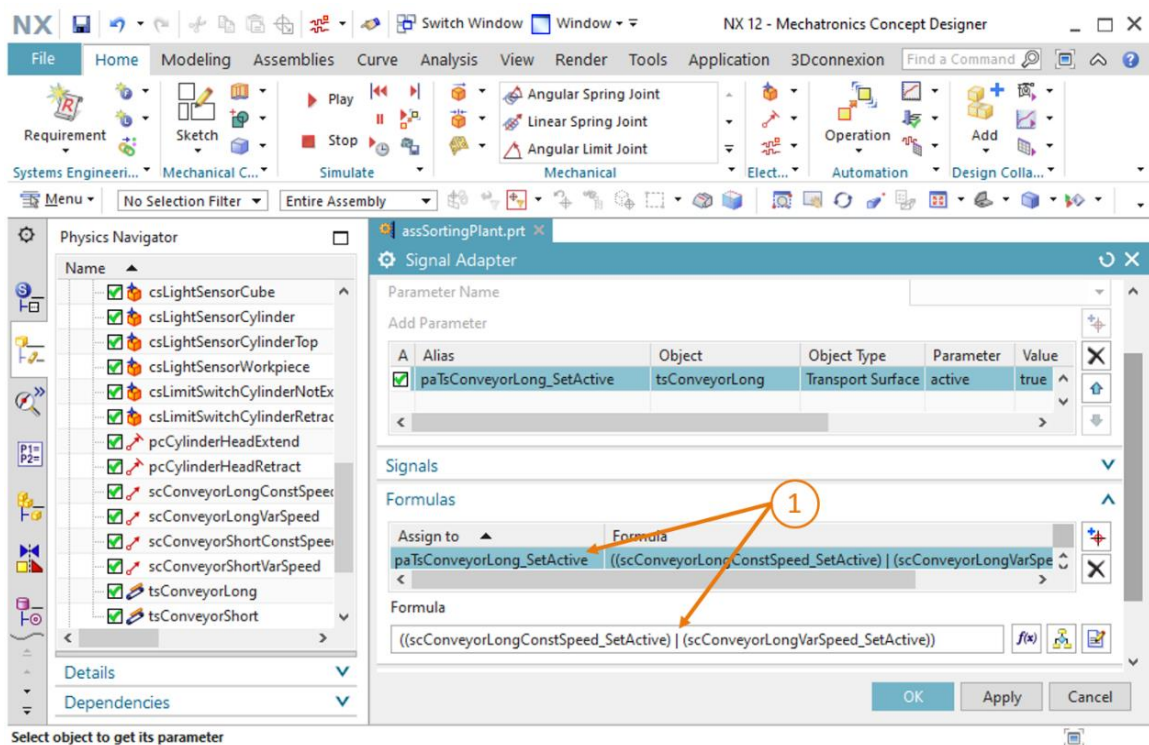

Figure 12: Creating a parameter for a transport surface.
- Another parameter must be added to the signal adapter in order to guarantee that the **"tsConveyorLong"** transport surface only moves when there is an active signal of one of the two associated speed controls. Select the parameter name **"active"** for this transport surface and give the new parameter the alias name **"paTsConveyorLong_SetActive"**. Then, assign the following formula for this parameter, as indicated in Figure 12, step 1: